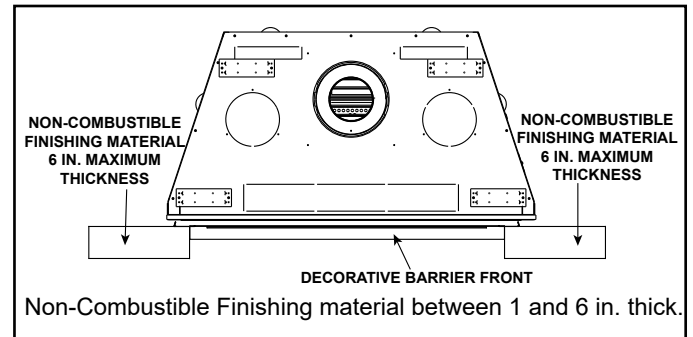

Figure 10.12 Inside Fit Decorative Barrier Front
- Inside Fit as shown in Figure 10.12. Decorative barrier front fits inside appliance opening.